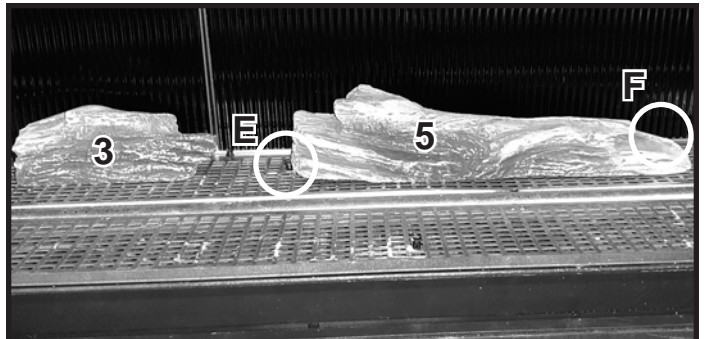

Figure 4 Install Log #5
**Log #5:** Place the left side of Log #5 against log pin E. Pivot the right side of the log backward until it contacts the rear log pin (F). See Figure 4.